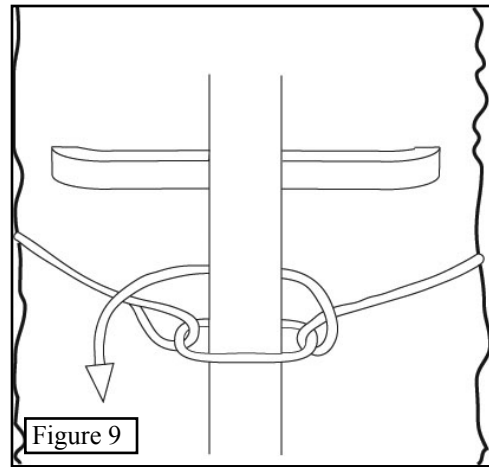

Figure 9
Step 5. Bring the rope back around to the other side and loop it around the pre attached rope end (See **Figure 9**.) Wrap the rope around itself several times so that the two sections of rope are pulled together tightly.